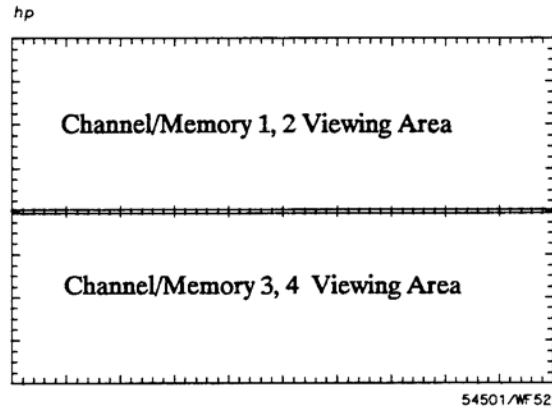

Figure 7-2. Dual Screen Display
- **2:** the display area is divided into two screens. Channels 1 and 2 will be displayed in the top screen and channels 3 and 4 will be displayed in the bottom screen (See Figure 7-2).